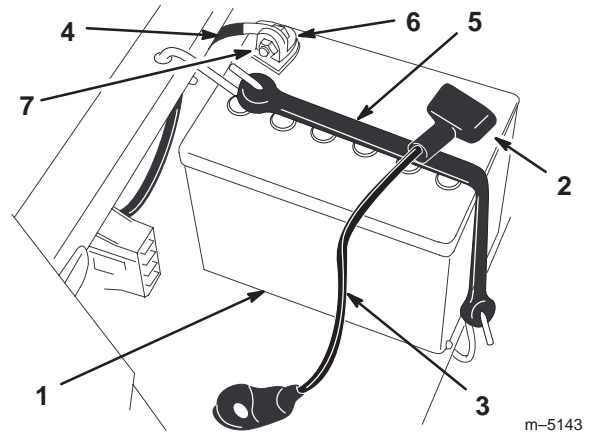

Figure 24
3. Disconnect the negative (black) ground cable from the battery post (Fig. 24).
4. Slide the rubber cover up the positive (red) cable. Disconnect the positive (red) cable from the battery post (Fig. 24).
5. Remove the battery hold-down (Fig. 24) and lift the battery from the battery tray.
1. Position the battery in the tray with the terminal posts away from the control panel (Fig. 24).
4. Secure the cables with 2 bolts (1/4 x 3/4 in.), washers (1/4 in.), and nuts (1/4 in.) (Fig. 24).
6. Secure the battery with the hold-down (Fig. 24).